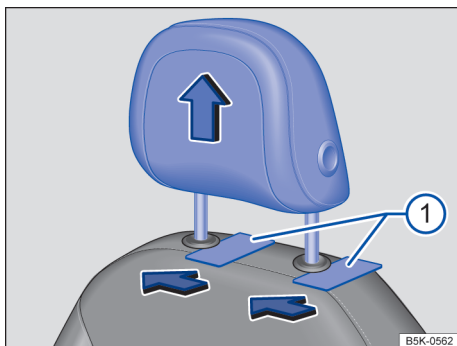

Fig. 72 Removing the front head restraints.
- Slide a flat object, such as a plastic credit card, underneath the right side of the cap (left side if sitting behind the head restraint) on the right-hand seat guide rod → fig. 72 ❶ to unlock the head restraint.